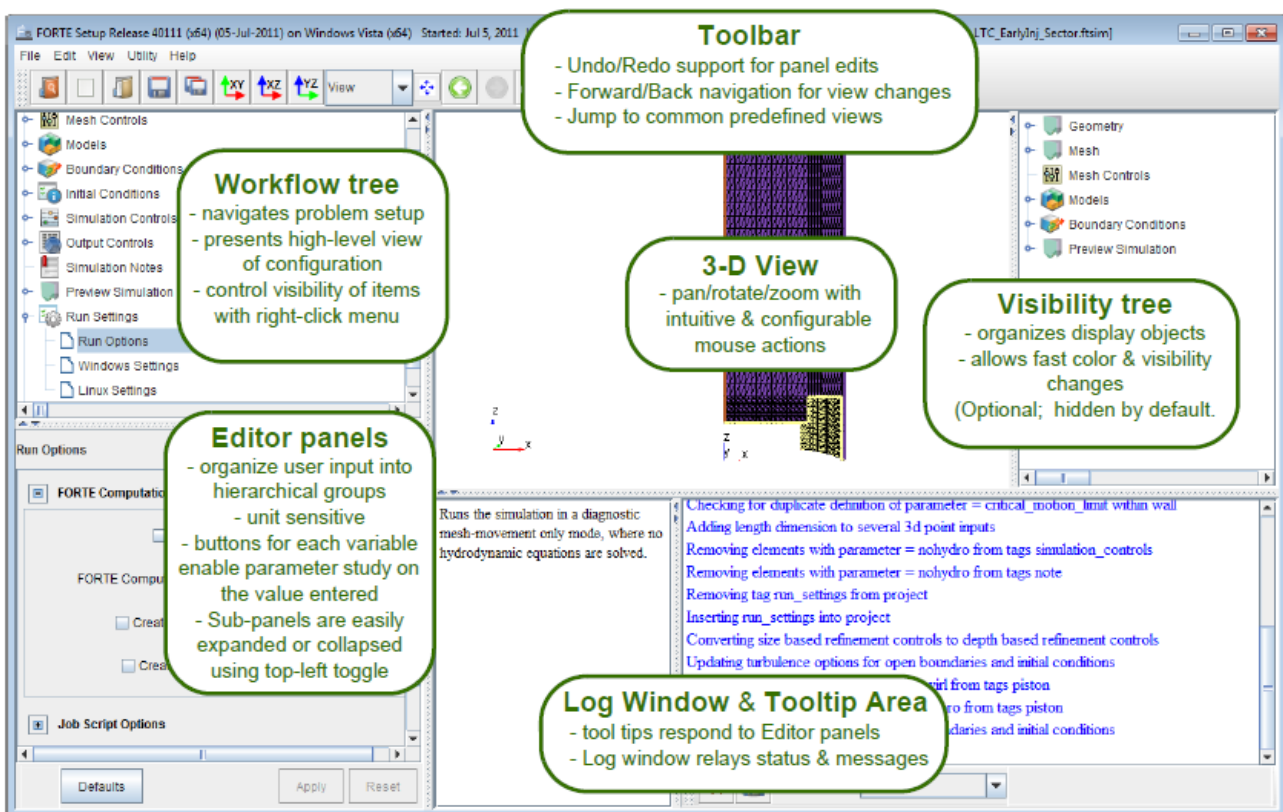

FIGURE 2.2: LAYOUT OF THE ANSYS FORTE SIMULATION WINDOW
**Figure 2.2: Layout of the ANSYS Forte Simulation window** provides a map of the different areas inside the Simulate frame, offering easy access to the various tasks during project setup.
The Workflow tree is in the upper left corner of the ANSYS Forte browser. (see **Figure 2.2: Layout of the ANSYS Forte Simulation window** ).